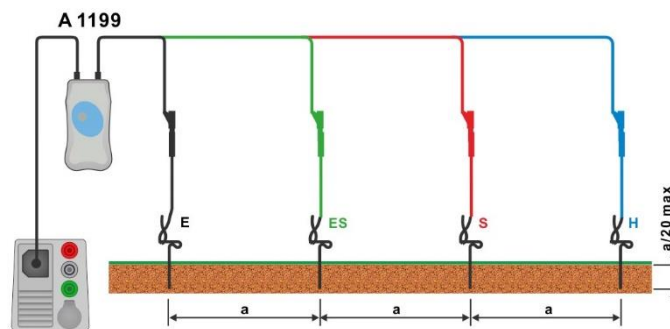

Figure 7.97: Specific earth resistance measurement
- ▶ Connect test leads to earth probes, see *Figure 7.97*.